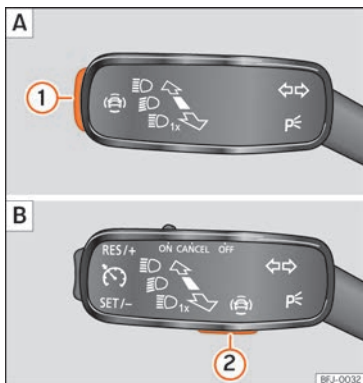

Fig. 86 On the turn signal and main beam lever: button for driver assistance systems (depending on versions).
- Press » **Fig. 86** ① or ② briefly to open the **Driving aids** menu.